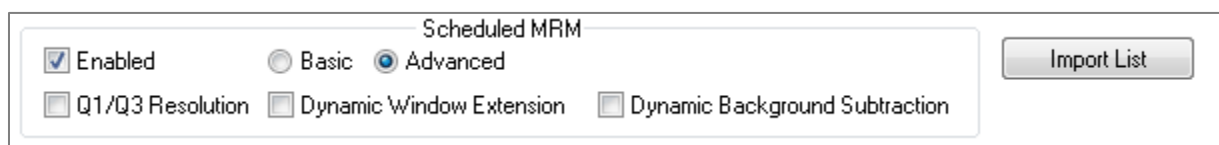

Figure B-3: Select the Scheduled MRM algorithm – enhanced mode.
2. Select the Scheduled MRM algorithm by checking the **Enable** box shown in **Figure B.3**. Use the Advanced Mode.
4. Select Basic as shown in Figure B-3 and save the method as *LIPID_sMRMPro_1.dam*.